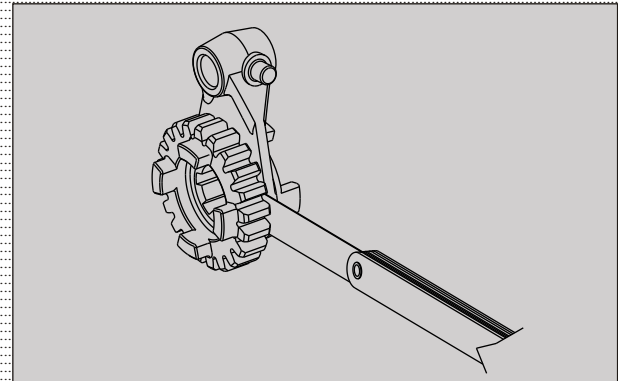

Fig.3.118
- Using a feeler gauge, check the clearance between fork gear shift and its seating groove on the gear. (Fig. 3.118) If measured clearance exceeds the service limit, determine whether the gear or the fork gear shift should be replaced with a new one.